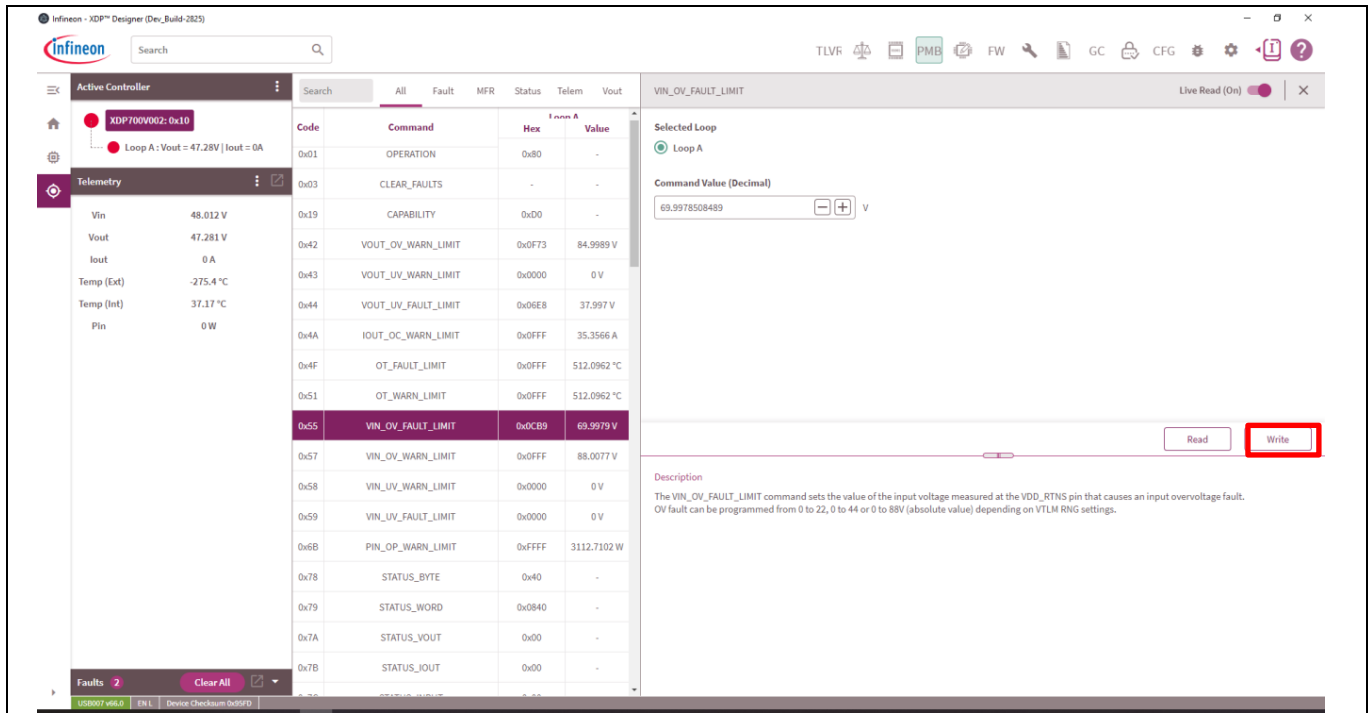

Figure 28 Reading VIN_OV_FAULT_LIMIT
3. To read the latest register values, click **Read**. See Figure 28.